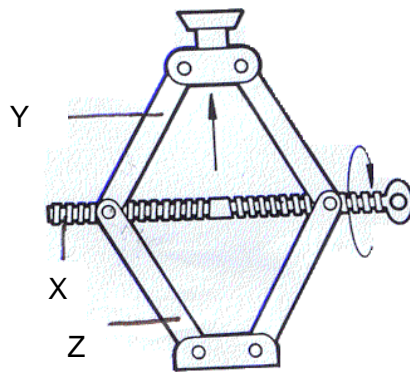

Fig. 7
(b) Fig. 7 shows an alternative design for a motor vehicle jack.
Explain briefly the major similarities and major differences between the two jack systems shown in Fig. 6 and Fig. 7.
**(c)** Fig. 7 does not show how part X is attached to parts Y and Z.